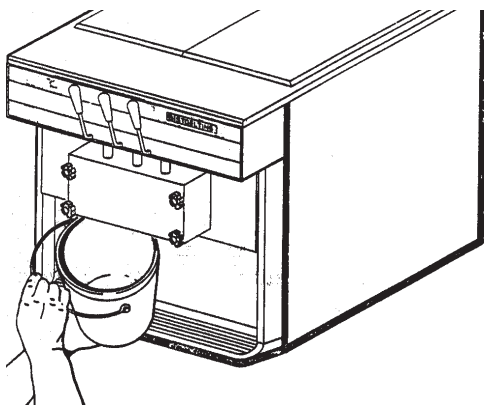

Figure 14. Spigot Opened and Solution Draining
- E. After five minutes, place the bucket under the spigots and open all three spigots to drain the sanitizing solution. When the solution has drained, place the CLEAN-OFF-SERVE switch in the OFF position. Allow the freezer barrel to drain completely (Fig. 14).